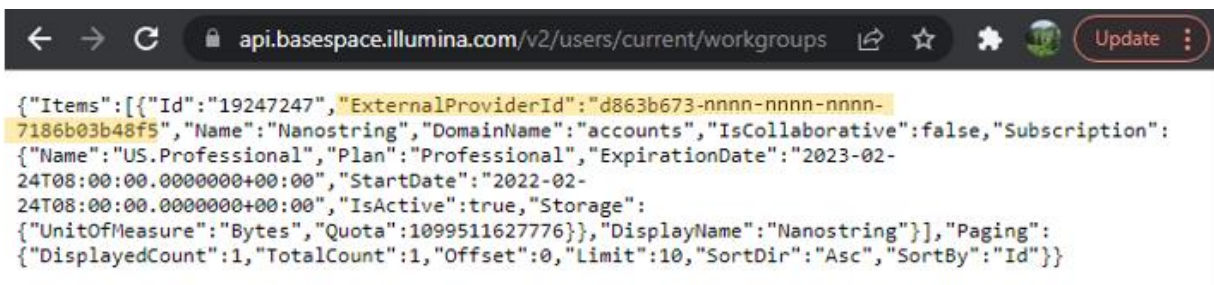

Figure 77: ExternalProviderID
- A list of workgroups will load. Identify the workgroup to which you wish to connect (**must be the same workgroup as selected in Step 6, above**) and note the ExternalProviderId (see Figure 77). Enter this alphanumeric code in the BaseSpace Workgroup ID field of the GeoMx DSP Control Center.